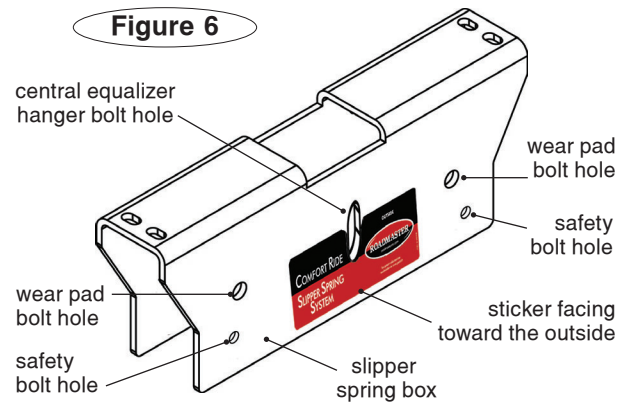

Figure 6
b. With the sticker (Figure 6) facing the outside of the trailer, slide the slipper spring box up and over the equalizer hanger bracket. Align the central slotted hole on the slipper spring box to the hole in the equalizer hanger bracket.
12. Installing the new slipper springs (refer to Figure 6 for the bolt locations in steps 12 and 13):
b. Insert a 7/16" bolt through the safety bolt hole (refer to Figure 6), a 2½" pipe spacer, and then through the other side of the slipper spring box.